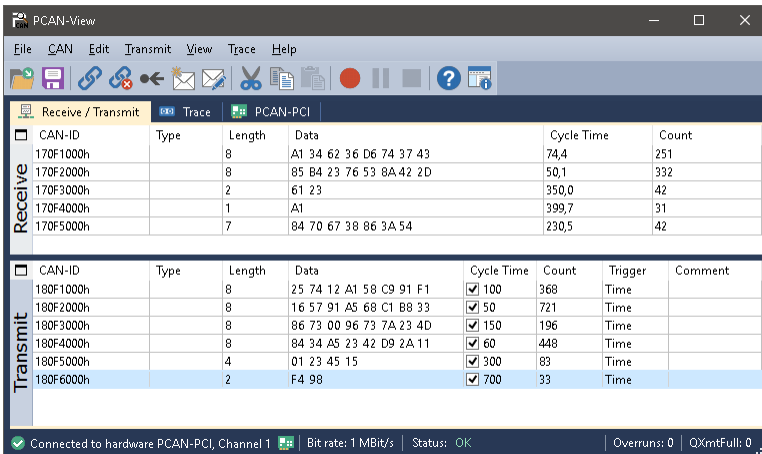

Figure 9: Receive/Transmit tab
6. Confirm the settings in the dialog box with **OK**. The main window of PCAN-View appears (see Figure 9).